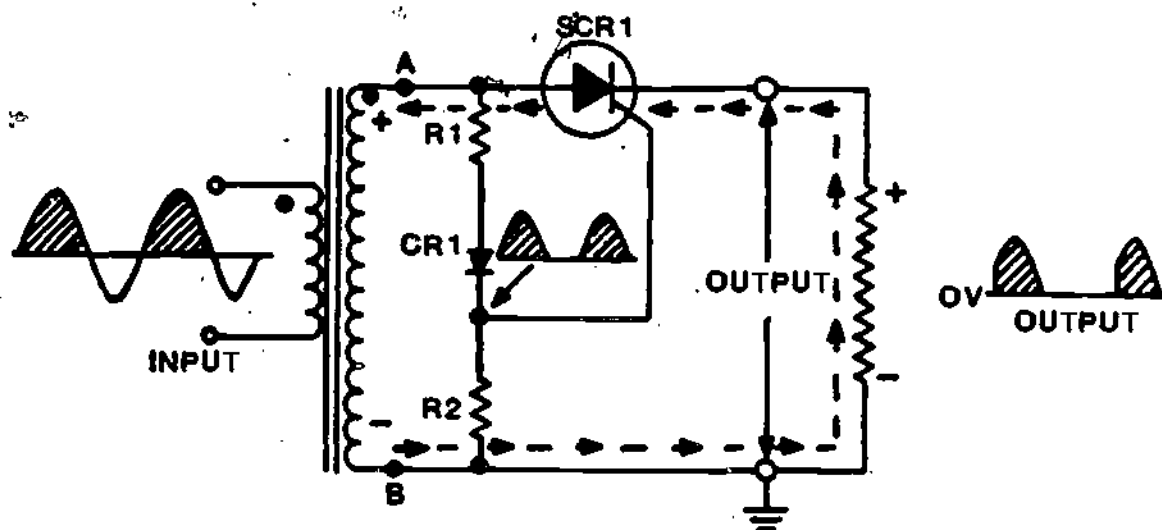

Figure 12
17. THIS IS A TEST FRAME, COMPLETE THE TEST QUESTIONS AND COMPARE YOUR ANSWERS WITH THE CORRECT ANSWERS GIVEN AT THE TOP OF THE PAGE FOLLOWING THE TEST QUESTIONS. REFER TO THE DIAGRAM SHOWN IN FIGURE 12 IN ORDER TO ANSWER QUESTIONS 1 AND 2.